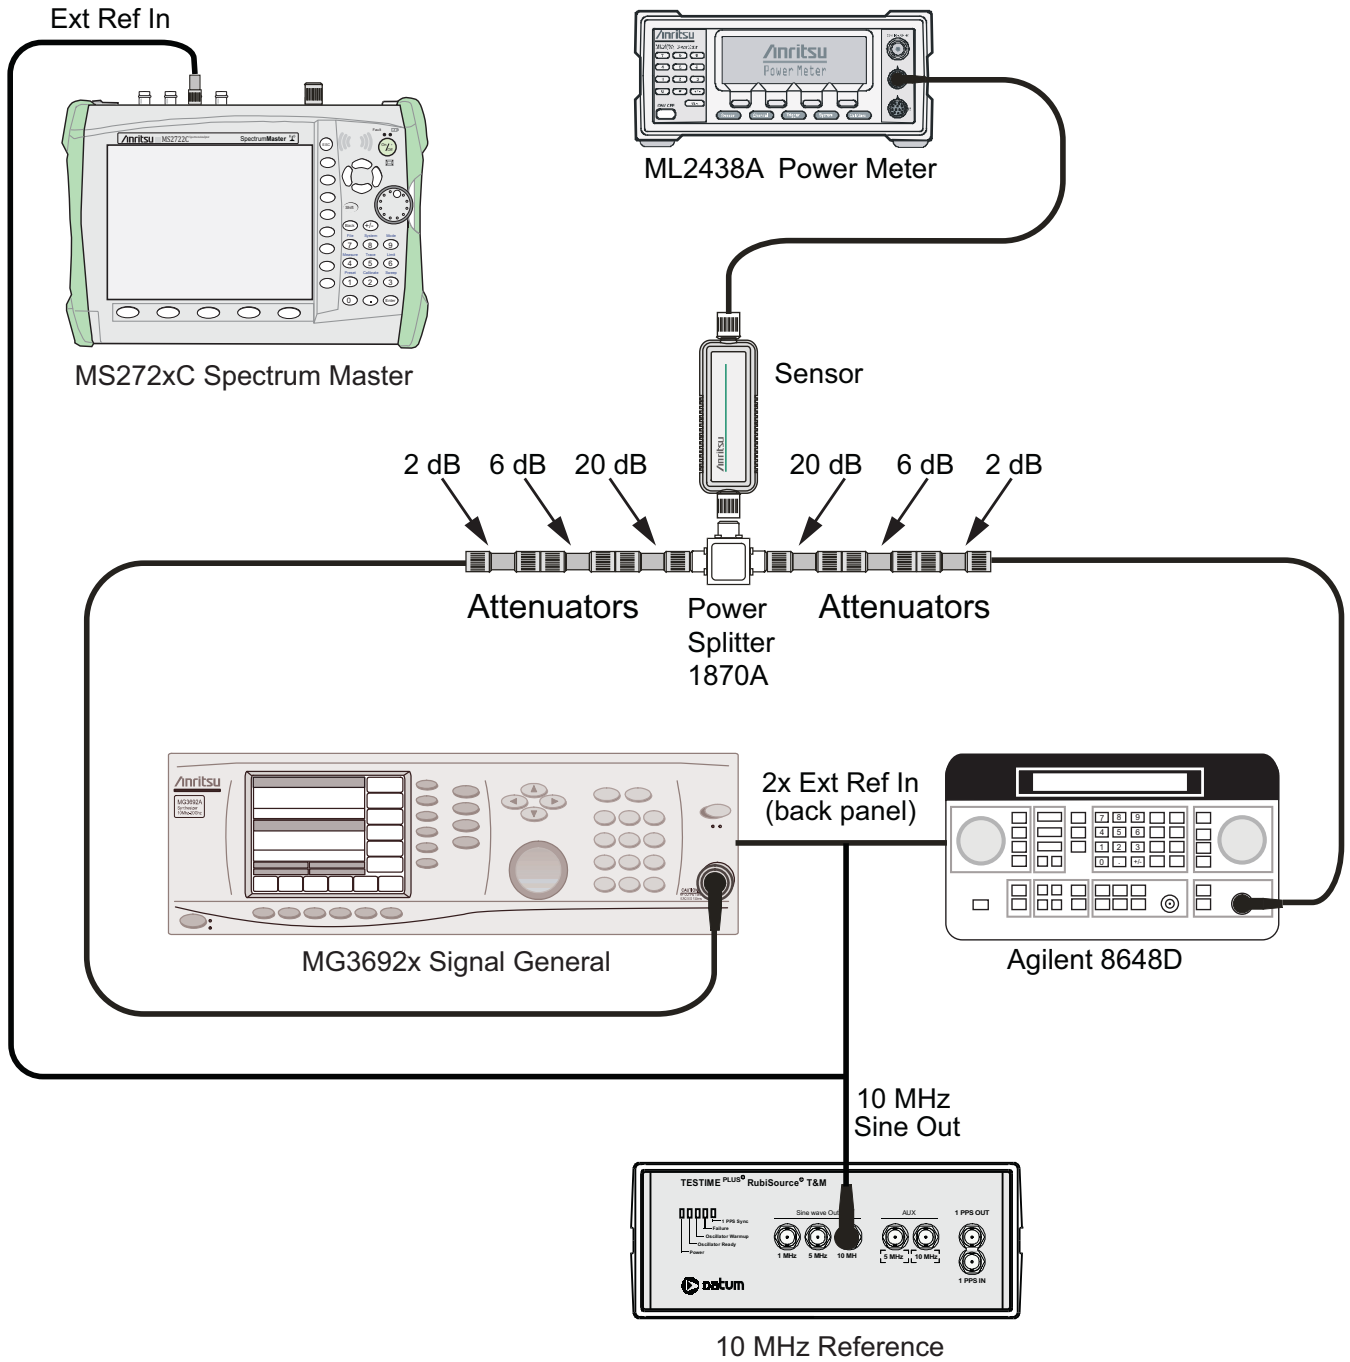
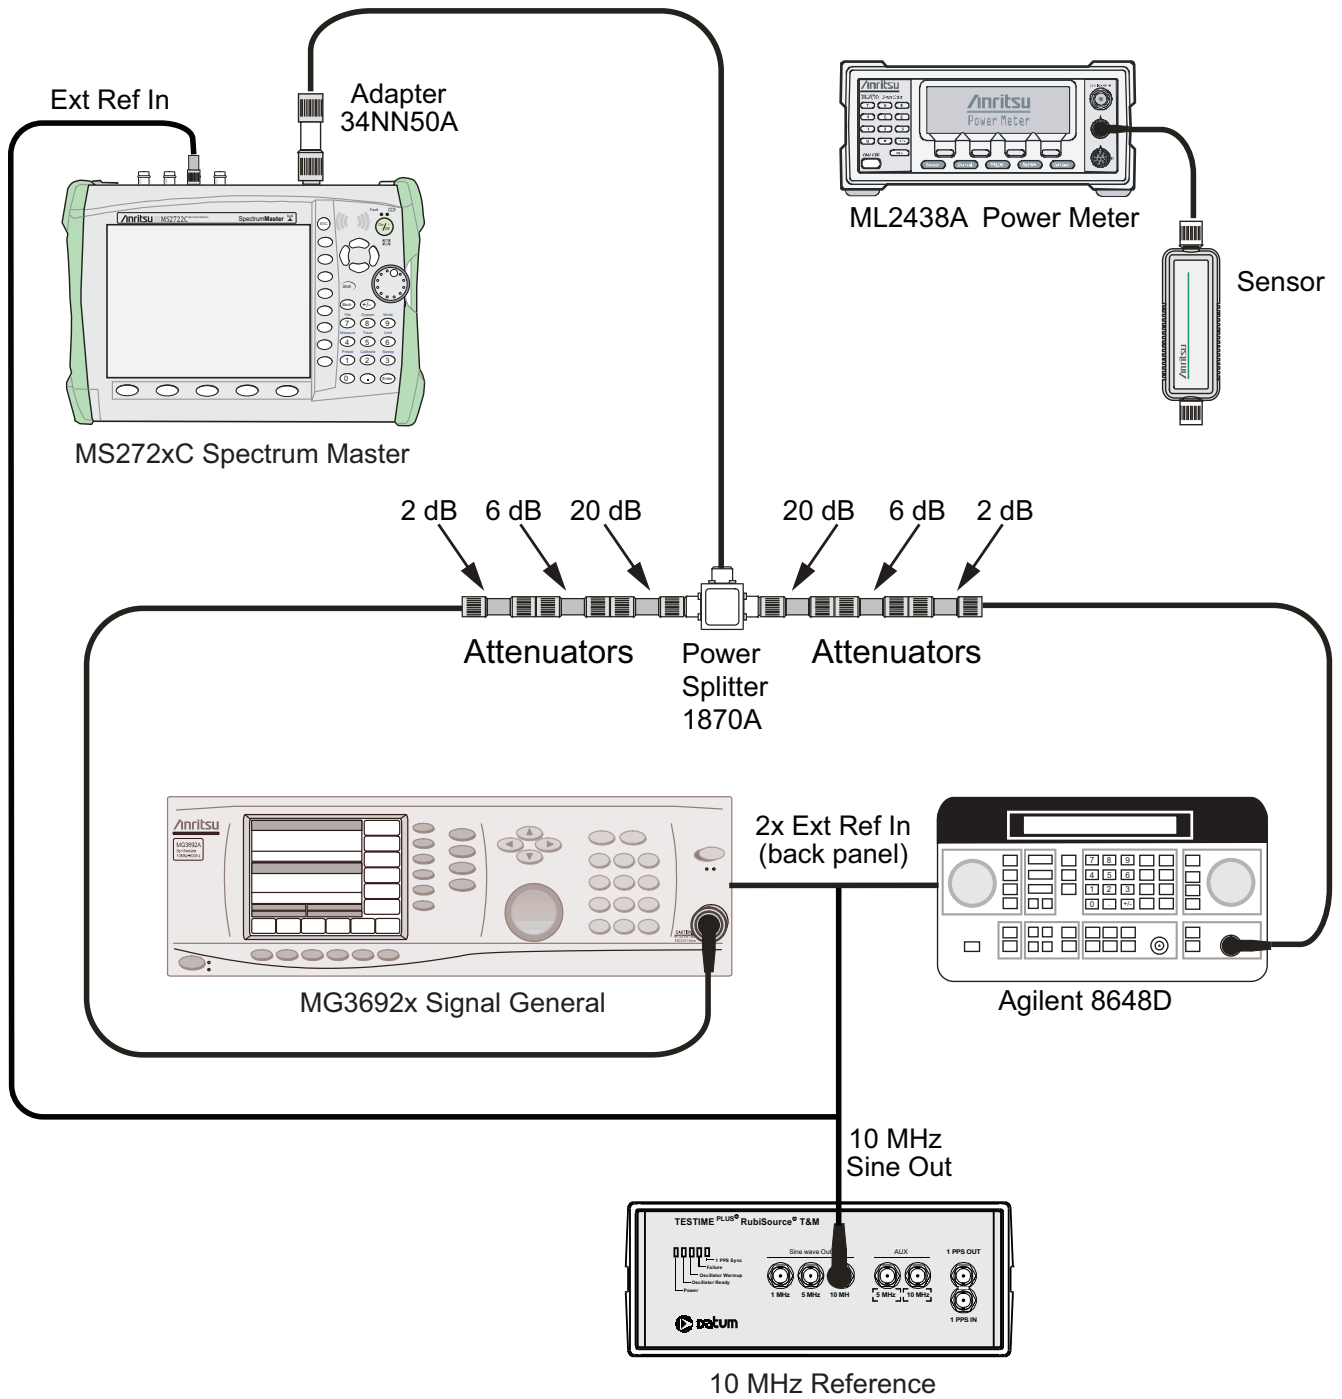

Figure 2-5. 2400 MHz TOI Verification Characterization, Component Characterization Setup
Figure 2-6. 2400 MHz TOI Verification, Test Setup
1. Connect the equipment as shown in Figure 2-5. The splitter will be used as an RF combiner (the normal RF outputs will become inputs, and the normal input will become the RF output).
8. Set the MS272xC to Spectrum Analyzer mode and then Preset the instrument. Press the **Shift** key, the **Sweep** (3) key, Sweep Mode submenu key and then the Performance submenu key.
10. Press the **Shift** key and the **Sweep** (3) key. Press **Detection**, and press RMS (a red dot appears on the label).
11. Disconnect the power sensor from the output of the splitter and connect the splitter output to the MS272xC Spectrum Analyzer RF In connector through the Anritsu Model 34NN50A or 71693-R adapter (Figure 2-6 on page 2-25).
13. Press the **Shift** key and then the **Trace** (5) key. Press Trace A Operations, and set # of Averages to 2.